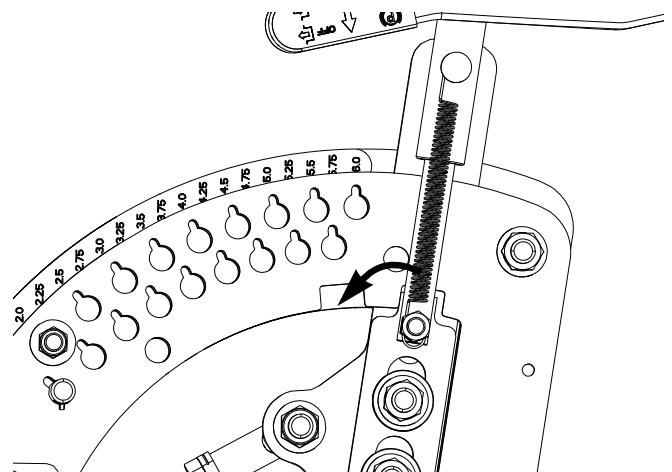

Figure 4-7. Cutter Deck Lever Latch
2. Pull the cutter deck lever back to the first latch position See Figure 4.7.